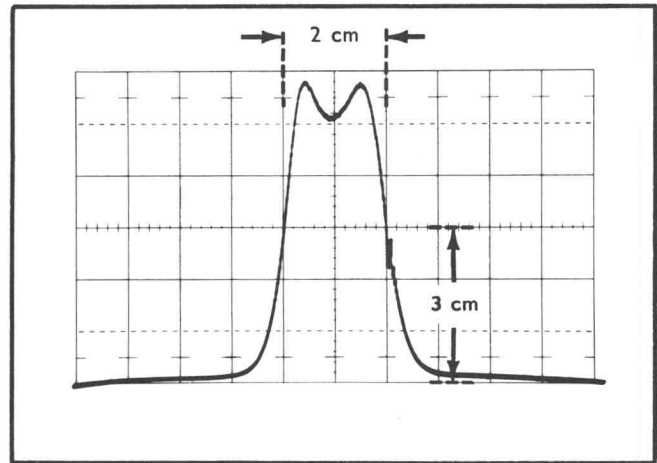

Fig. 5-3. Typical display for Resolution Check (Step 7).
- e. Check the display for a signal width of 2 centimeters at 3 centimeters above the base line. (See Fig. 5-3.)